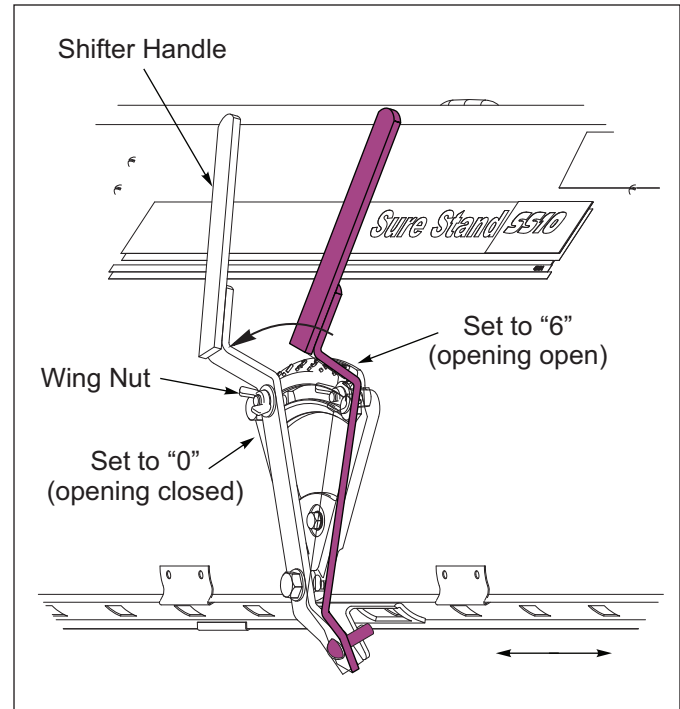

Figure 5-13: Shifter Handle
- Check that the Shifter Handle functions properly in relationship with the Shifter Plate. **See Figure 5-13.**